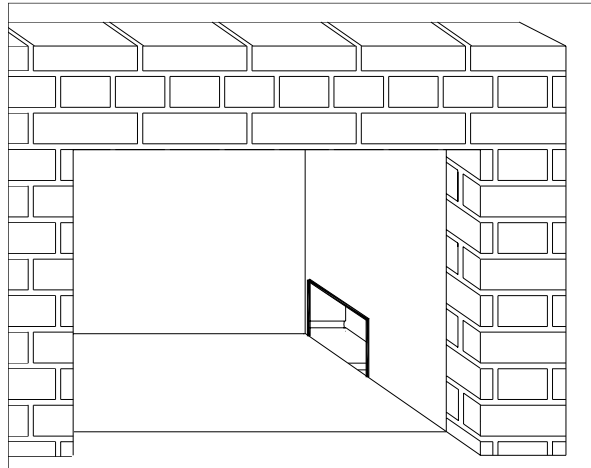

Figure 2 – The Positive Pressure Hole
- 7) A 7" hole must be made in the firebrick where the air duct will pass through the wall at the point where the blower will be mounted (see Fig 2).